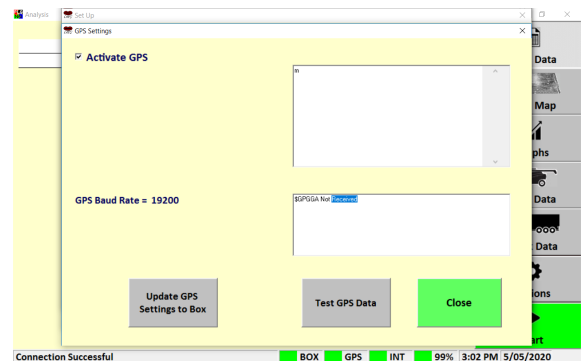

Figure 3-14. Setup - GPS Test Window—Fail.
- Press **Update GPS Settings** button as shown in figure 3.14 to open the Configuration window.